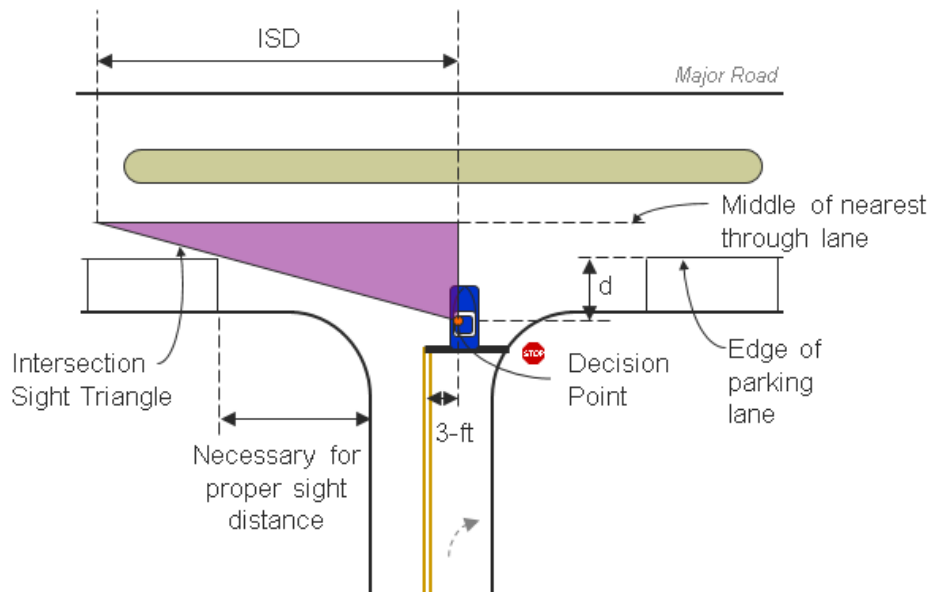

Figure 6. Right turners looking left
- D. Right out only, stop control with on-street parking:** The sight triangle for a minor stop controlled approach, with only right turns allowed, and on-street parking on the major road shall be based on Figure 6, and Table 4.